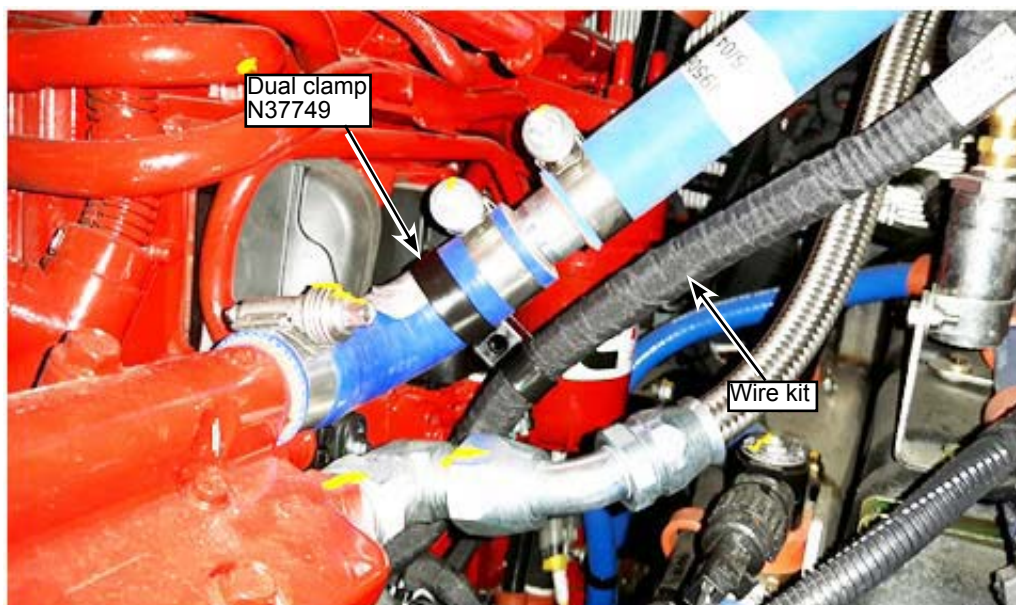

Figure 7 - Routing of Wire Kit
- 1.8. Continue routing up along the blue hose, use a dual clamp tie wrap N37749 as shown below (see Figure 7).